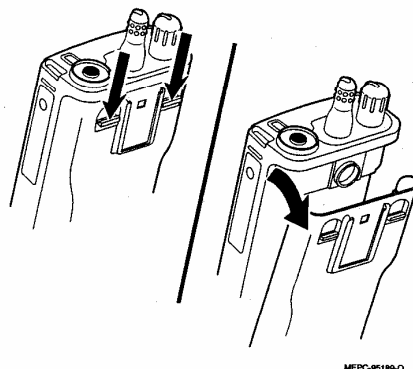

Figure 1
2. Remove the battery (see figure 1).